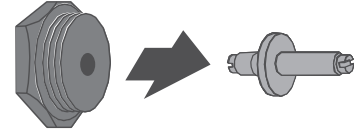

Figure 7
- 4** Remove retainer pin by pulling it out (see Figure 7).